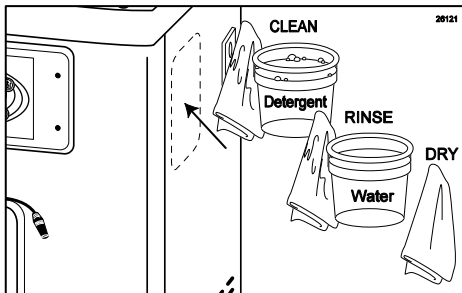

Figure 116
3. Thoroughly clean and dry the face of the freezer where the Bracket base will be attached. (See Figure 116.)